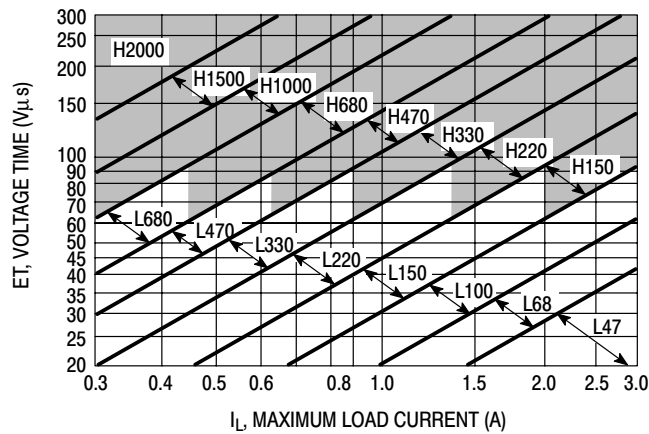
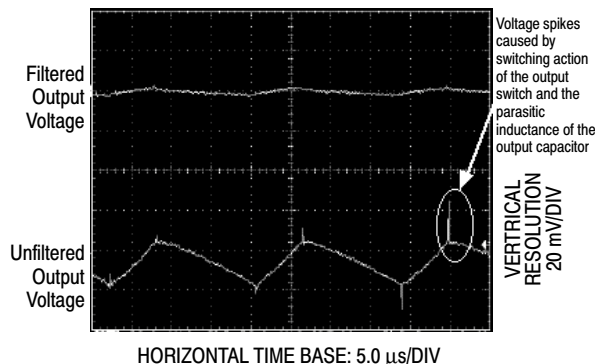

Figure 22. LM2576-ADJ
Figure 25. Output Ripple Voltage Waveforms
4. Inductor Selection (L1) A. Use the following formula to calculate the inductor Volt x microsecond [V x μs] constant: $E \times T = (V_{in} - V_{out}) \frac{V_{out}}{V_{in}} \times \frac{10^6}{F[\text{Hz}]} \text{ [V x } \mu\text{s]}$ B. Match the calculated E x T value with the corresponding number on the vertical axis of the Inductor Value Selection Guide shown in Figure 22. This E x T constant is a measure of the energy handling capability of an inductor and is dependent upon the type of core, the core area, the number of turns, and the duty cycle. C. Next step is to identify the inductance region intersected by the E x T value and the maximum load current value on the horizontal axis shown in Figure 25. D. From the inductor code, identify the inductor value. Then select an appropriate inductor from Table 2. The inductor chosen must be rated for a switching frequency of 52 kHz and for a current rating of $1.15 \times I_{Load}$. The inductor current rating can also be determined by calculating the inductor peak current: $I_{p(\text{max})} = I_{Load(\text{max})} + \frac{(V_{in} - V_{out}) t_{on}}{2L}$ where t_{on} is the “on” time of the power switch and $t_{on} = \frac{V_{out}}{V_{in}} \times \frac{1.0}{f_{osc}}$ For additional information about the inductor, see the inductor section in the “External Components” section of this data sheet.	4. Inductor Selection (L1) A. Calculate E x T [V x μs] constant: $E \times T = (25 - 8.0) \times \frac{8.0}{25} \times \frac{1000}{52} = 80 \text{ [V x } \mu\text{s]}$ B. E x T = 80 [V x μs] C. $I_{Load(\text{max})} = 2.5 \text{ A}$ Inductance Region = H150 D. Proper inductor value = 150 μH Choose the inductor from Table 2.
The regulator output voltage may also contain short voltage spikes at the peaks of the sawtooth waveform (see Figure 25). These voltage spikes are present because of the fast switching action of the output switch, and the parasitic inductance of the output filter capacitor. There are some other important factors such as wiring inductance, stray capacitance, as well as the scope probe used to evaluate these transients, all these contribute to the amplitude of these spikes. To minimize these voltage spikes, low inductance capacitors should be used, and their lead lengths must be kept short. The importance of quality printed circuit board layout design should also be highlighted.
In order to minimize the output ripple voltage it is possible to enlarge the inductance value of the inductor L1 and/or to use a larger value output capacitor. There is also another way to smooth the output by means of an additional LC filter (20 μH, 100 μF), that can be added to the output (see Figure 34) to further reduce the amount of output ripple and transients. With such a filter it is possible to reduce the output ripple voltage transients 10 times or more. Figure 25 shows the difference between filtered and unfiltered output waveforms of the regulator shown in Figure 34.